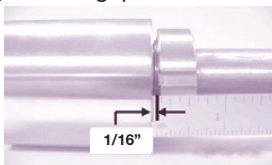

Figure 2 - Gap for Second Grip Tight Fan Bushing
- 4) Slide the second Grip Tight Fan Bushing assembly over the shaft and into the bore of the component leaving a 1/16" gap between the bushing face and component shoulder (Figure 2).